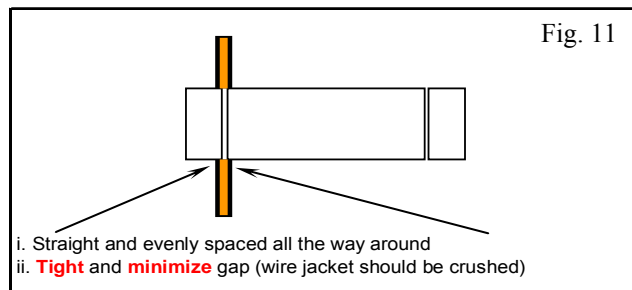

Fig. 11
- 17) Inspect the tap to ensure correct installation. Fig. 11